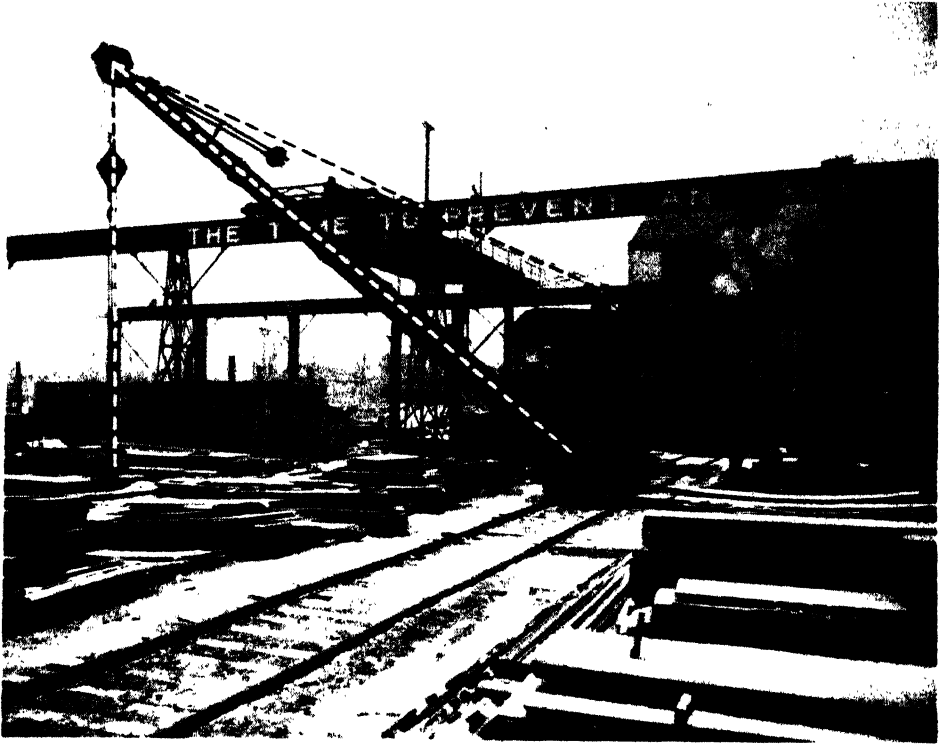

FIG. 222. RAILROAD DERRICK.
11. Shown in Fig. 222 is a small railroad derrick. The vertical cable is lifting a 2 ton weight. Find the compression on the boom and the tension on the upper cable, using the graphic method of solving. (Use a full sheet of paper). Disregard the weight of the boom.